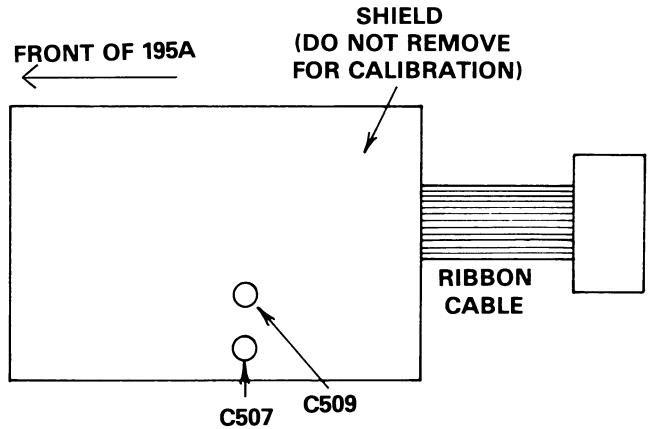

Figure 7-5. Location of Frequency Compensating Capacitors on Model 1950
- B. Switch the calibrator frequency to 20kHz. Adjust C507 on the Model 1950 (see Figure 7-5) so that the display reads 0.0000 ± 2 counts.